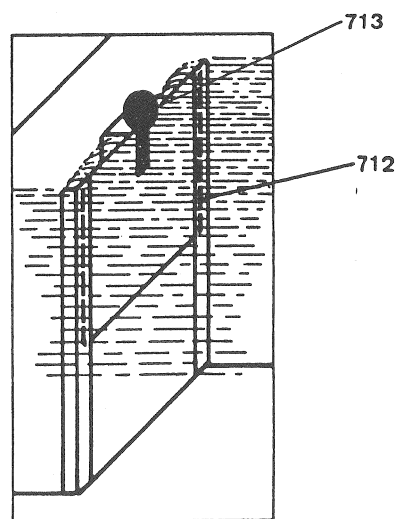

Fig 6
Sliding door for adjustment of level and overflow (712) (fig. 6)